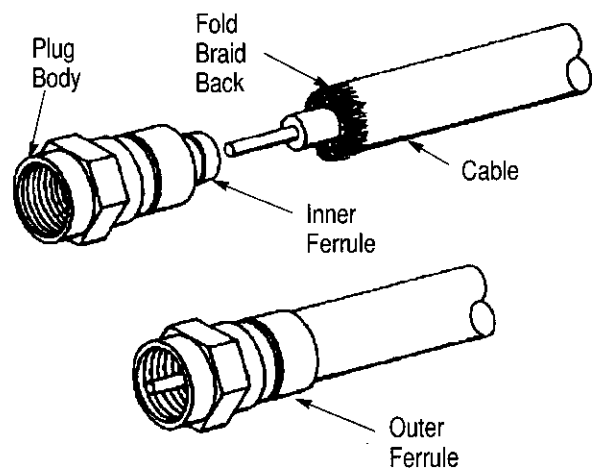

Figure 4
**3.2. Connector 221539** (Figure 4)